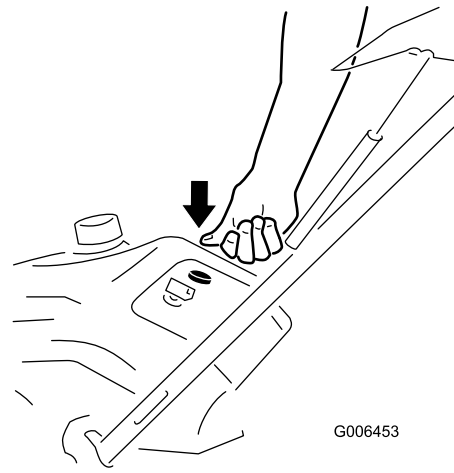

Figure 12
3. Firmly push in the primer 2 times with your thumb, holding the primer in a for a second before releasing it each time (Figure 12).